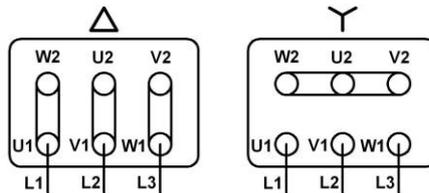

Fig. 1
- Check the insulation resistance of the motor winding and carry out connection to power grid - when there is no power - in accordance with the indications on the plate. Usually three-phase, electric motors allow for the use of 2 different voltage values and 2 different, interdependent frequency values corresponding to 2 different types of connection (triangle Δ or star Y) between the motor terminals and the electric network (ref. to fig. 1).
- per i motori trifase, scambiare fra loro 2 dei 3 cavi di alimentazione L1, L2, L3 (vedi fig. 1);
- for three-phase motors: interchange any two phases L1, L2, or L3 of the power cables (ref. to fig. 1);